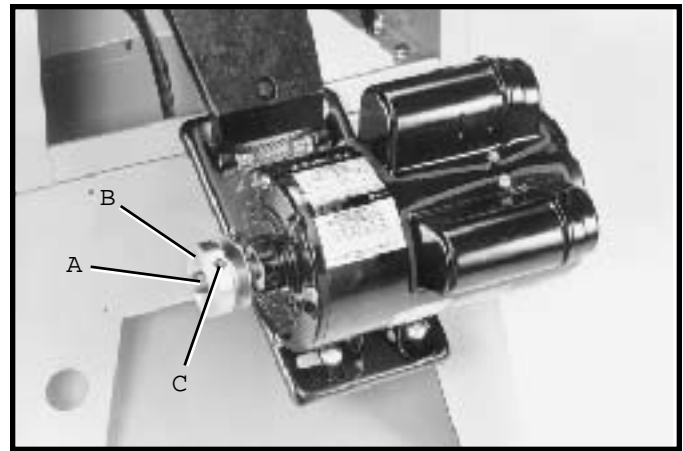

Fig. 16
2. Insert the key (A) Fig. 16, in the keyway on the motor shaft. Assemble the motor pulley (B) on the motor shaft as shown, with the hub of the pulley facing out. Tighten set screw (C) against key (A) in motor shaft.